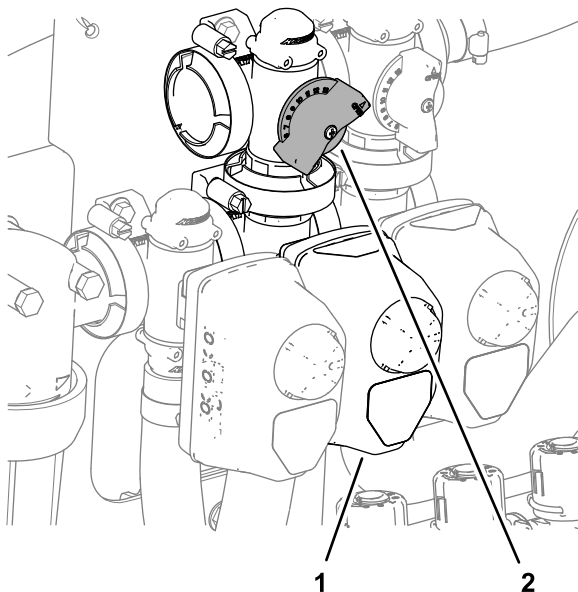

Figure 283
- Adjust the agitation-bypass valve (Figure 283) until the gauge indicates 689 kPa (100 psi) sprayer system pressure.